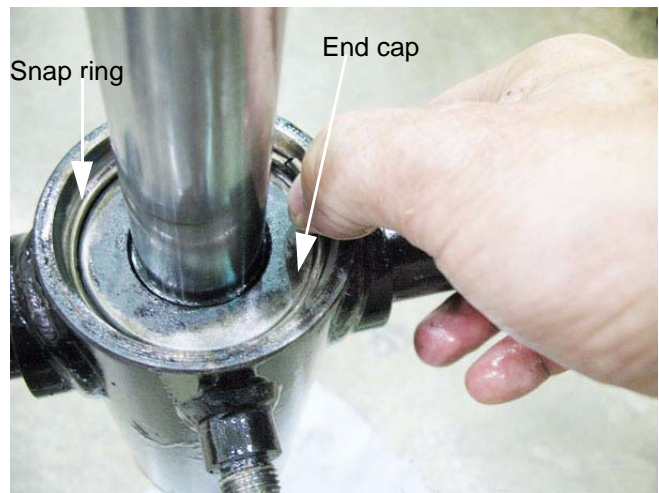

Figure 5.15
- 2.39. Install the snap ring. See Figure 5.15.